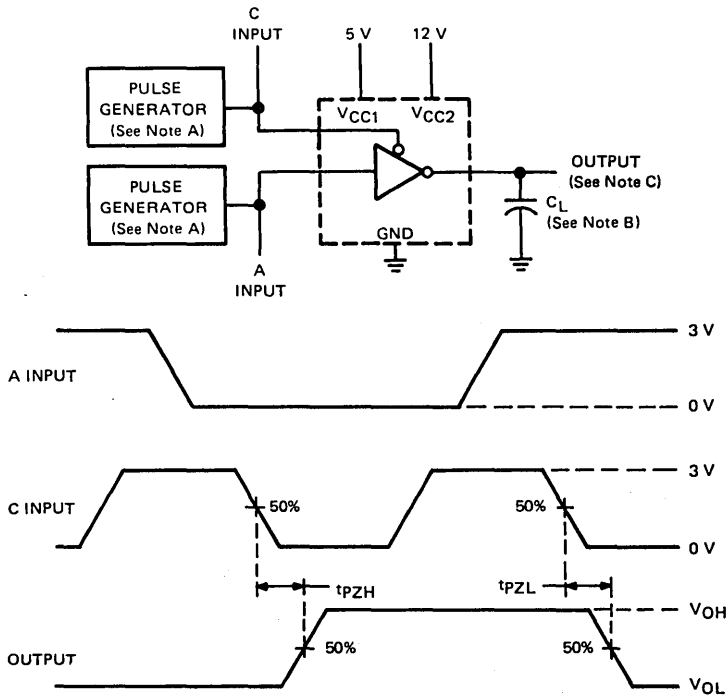

FIGURE 2—TEST CIRCUIT AND VOLTAGE WAVEFORMS FOR  $t_{pZH}$  AND  $t_{pZL}$
- NOTES: A. The pulse generators have the following characteristics: PRR = 1 MHz, (2 MHz for C input in Figure 2),  $Z_{out} = 50 \Omega$ .